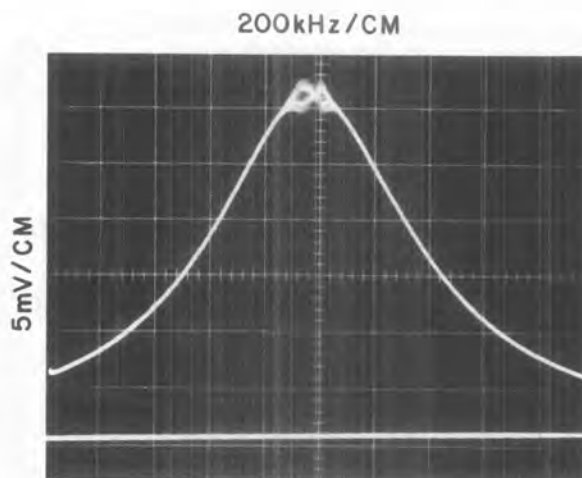

Figure 4-4. Typical Mixer Output Response Curve
- (2) Adjust the sweep generator to produce an approximately 1 MHz wide sweep centered at 10 MHz. Use the sweep generator internal 10 MHz marker.
- (3) Adjust the sweep generator and oscilloscope to display the response curve.
- (4) Adjust capacitor A2A2C16 to peak the response and center it about the 10 MHz marker.
- (5) A typical response is shown in Figure 4-4.